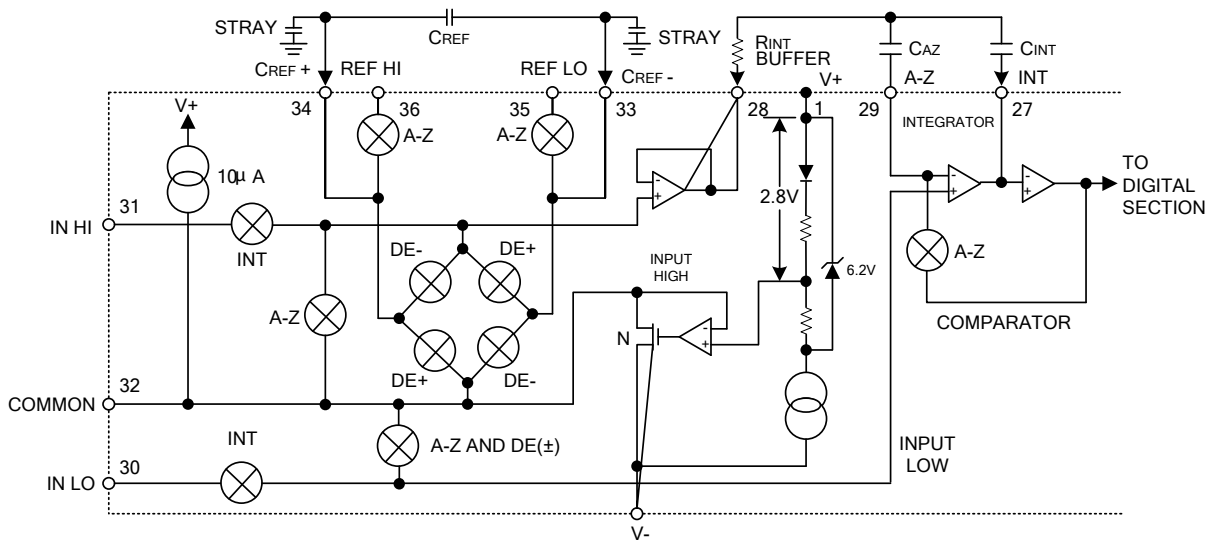

Fig.1 Analog Section
■ ELECTRICAL CHARACTERISTICS ($T_A=25^{\circ}\text{C}$, $f_{\text{CLOCK}}=48\text{kHz}$, measured by the circuit of Fig.1)
Fig.1 shows the Analog Section for the UTC **7106**. Each measurement cycle is divided into three phases. They are (1) auto-zero(A-Z), (2)signal integrate (INT)and (3)de-integrate(DE).